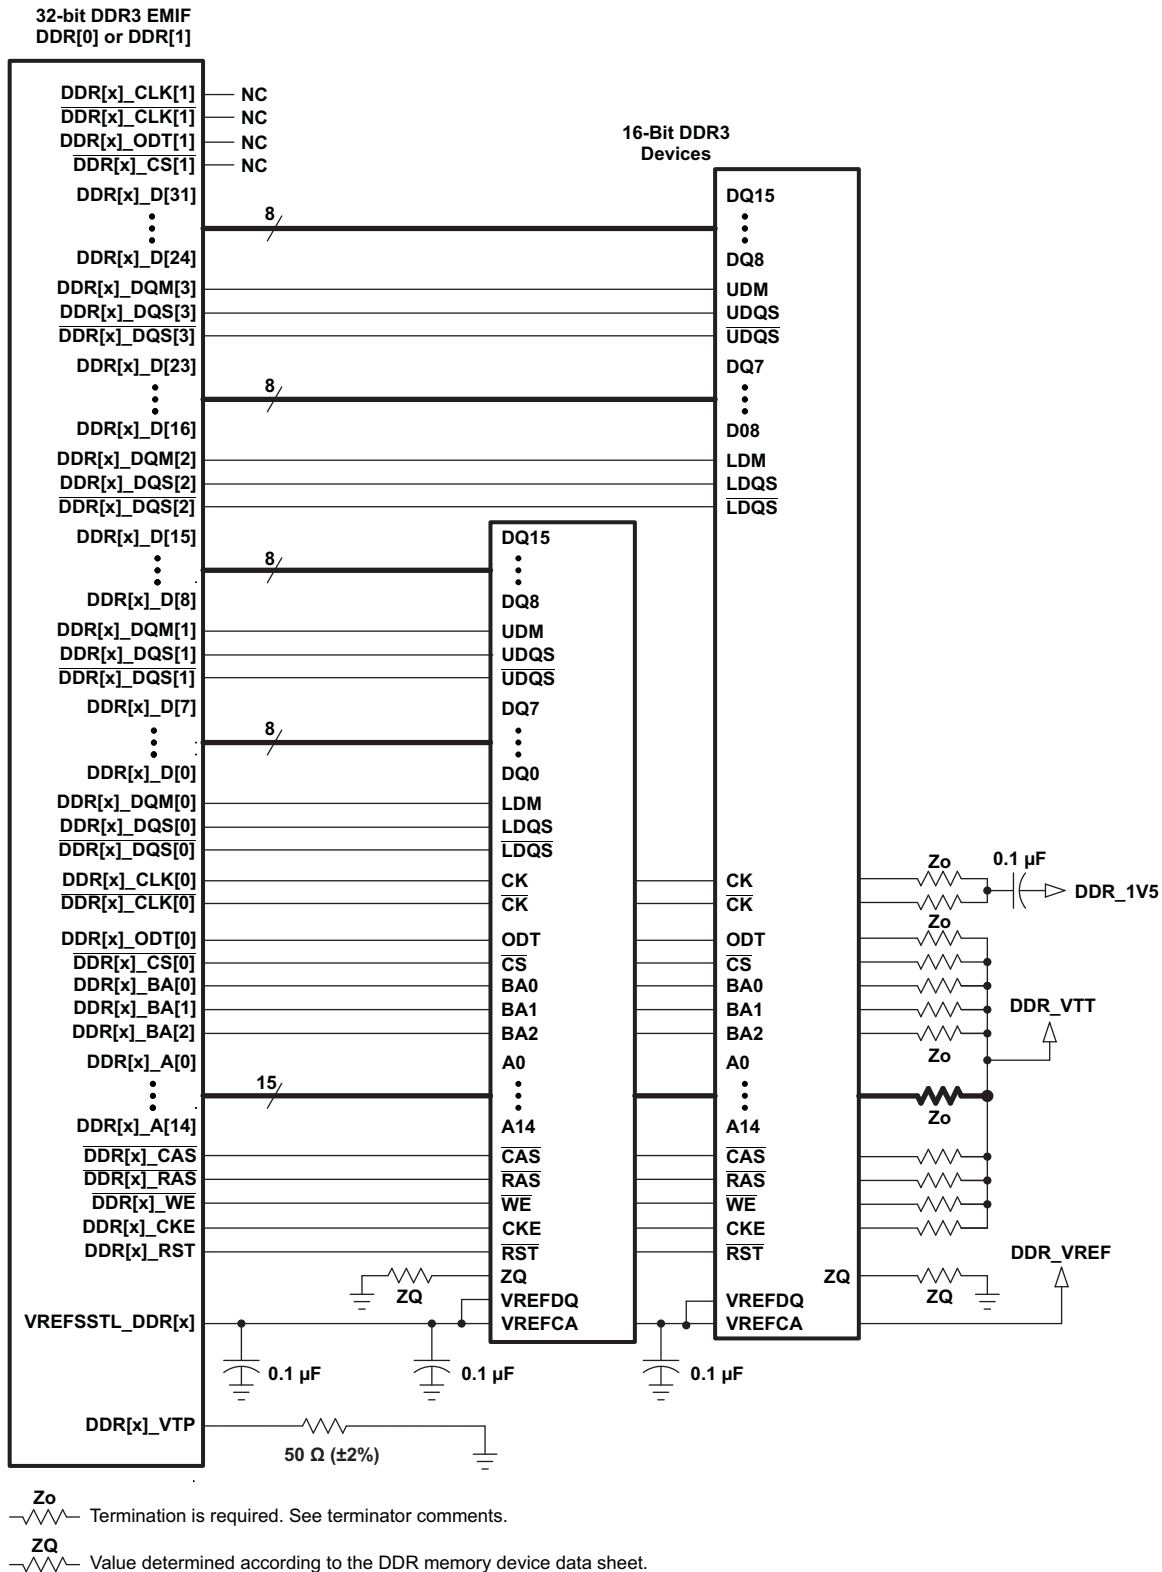

Figure 8-13. 32-Bit, One-Bank DDR3 Interface Schematic Using Two 16-Bit DDR3 Devices
The DDR3 interface schematic varies, depending upon the width of the DDR3 devices used and the width of the bus used (16 or 32 bits). General connectivity is straightforward and very similar. 16-bit DDR devices look like two 8-bit devices. Figure 8-13 and Figure 8-14 show the schematic connections for 32-bit interfaces using x16 devices.
Note that the 16-bit wide interface schematic is practically identical to the 32-bit interface (see Figure 8-13 and Figure 8-14); only the high-word DDR memories are removed and the unused DQS inputs are tied off. The processor DDR[x]_DQS[2] and DDR[x]_DQS[3] pins should be pulled to the DDR supply via 1-k Ω resistors. Similarly, the DDR[x]_DQS[2] and DDR[x]_DQS[3] pins should be pulled to ground via 1-k Ω resistors.
(1) DDR3 speed grade depends on desired clock rate. Data rate is 2x the clock rate. For DDR3-1600, the clock rate is 800 MHz.
(2) For valid DDR3 device configurations and device counts, see Section 8.3.2.3, Figure 8-13, and Figure 8-14.